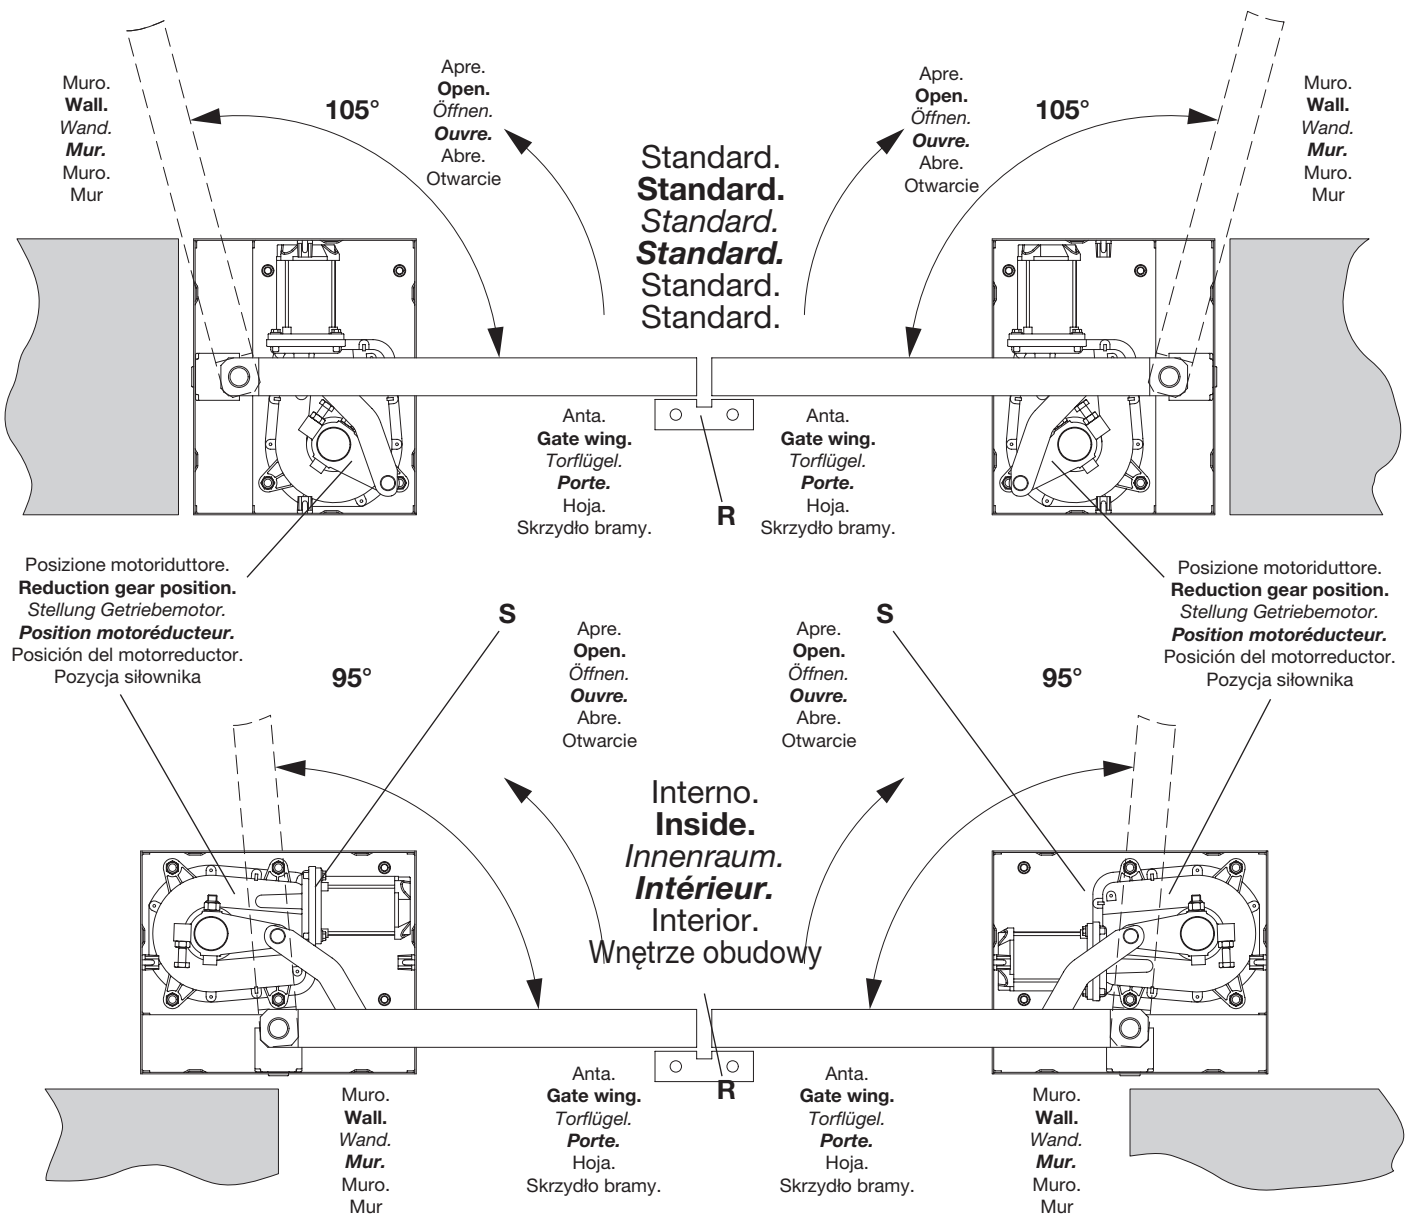

Fig.3
- 2 Fit the geared motor group to the casing with 4 of the 6 nuts supplied on the casing, according to the type of assembly (see Fig. 3) and with the self-tapping screws supplied.